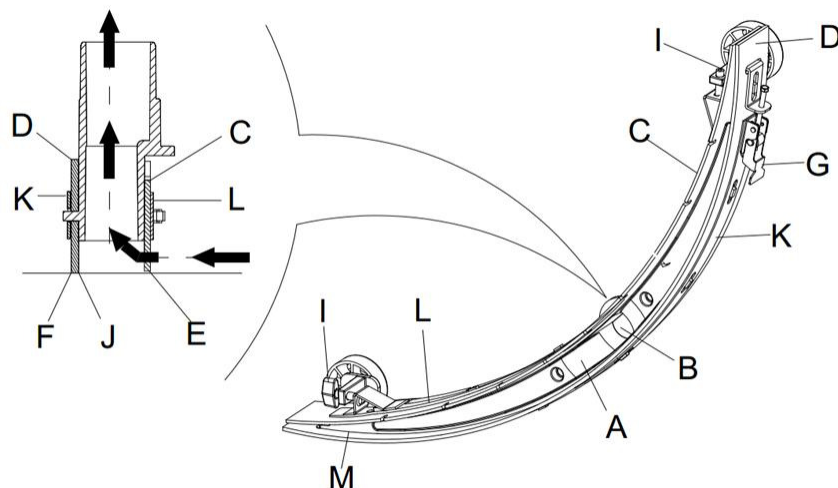

Figure 10
2. Press the power switch (38) to the "O" position to turn off the machine.
3. Unscrew the fixed handle (16) of the squeegee; take off the connector connecting the Recovery Vacuum tube of the squeegee, and take off the squeegee.
4. Use the squeegee lifting handle (14) to lift the squeegee support frame.
5. Clean the squeegee (**Figure 10**). Clean in particular the groove (**A, Figure 10**) and the dirt and fragments on the Vacuum tube. Check if the front squeegee blade (C) and the rear squeegee blade (D) are intact, and if there are broken edges and cracks. Change them if necessary (refer to the steps in the following section).
1. Following the methods related in the previous section clean the squeegee (**Figure 10**)
2. Check the edge (**E, Figure 10**) of the front squeegee blade and the edge (F) of the rear squeegee blade (D). On the whole length, they should be on the same level. Otherwise, adjust their heights through the following procedure.
- Loosen the clip (G) to let the rear squeegee blade (D) separate from the bracket (M) for the adjustment of the position of the squeegee. After the adjustment, lock the clip once again.
- Loosen the screw on the handle (I) to adjust the front squeegee blade (C); tighten the handle screw after adjustment.
3. Check if the front squeegee blade (C) and the rear squeegee blade (D) is intact and if there are broken edges and cracks. If necessary, change them according to the following ways. Check the front edge of the rear squeegee blade (J) whether it has been worn. If worn, it can be installed upside down (the top edge is required to be intact). If the top edge is also worn, change it by following the procedure below:
- Loosen the clip (G) to let the pressure blade separate from the bracket (M), take off the clip bar (K), and then change or turn the rear squeegee blade (D) upside down. Re-install the rear squeegee blade in the reverse order of taking it off.
- Loosen the handle screw (I) and take off the front clip bar (L), and then change the front squeegee (C).